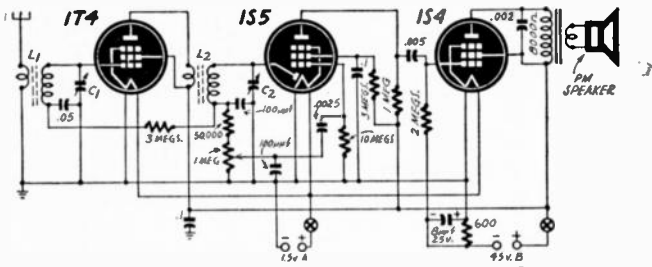

Fig. 111
A. The diagram (Fig. 111) shows a 3-tube t.r.f. receiver with one stage of r.f., a detector with audio amplifier, and a power amplifier stage.